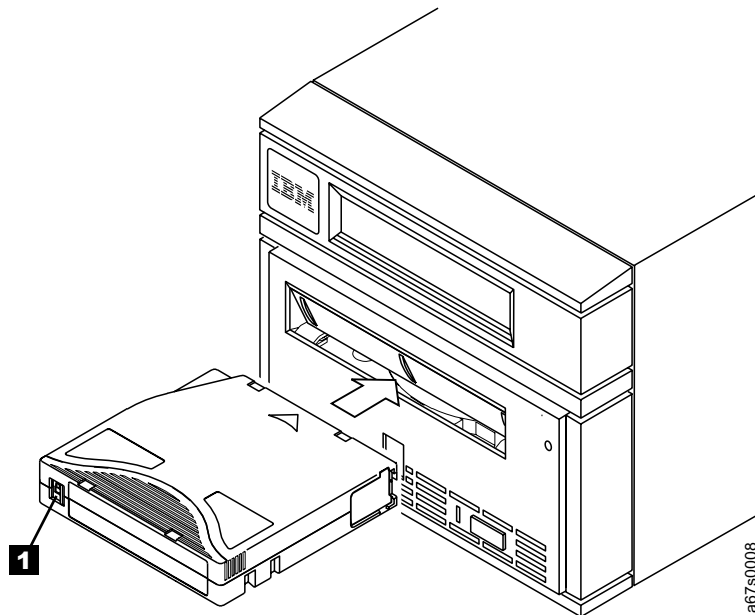

Figure 6. Inserting a Cartridge into the 3580 Tape Drive
2. Ensure that the write-protect switch (**1** in Figure 6) is properly set (see “Setting the Write-Protect Switch” on page 26).
4. Slide the cartridge into the tape load compartment (see Figure 6). The cartridge loader draws the cartridge into the tape drive and the following message appears on the message display:
To clean the head, insert the cleaning cartridge into the tape load compartment (see Figure 6 on page 19). The tape drive performs the cleaning automatically. The cleaning cycle takes less than 2 minutes. When the cleaning is finished, the drive ejects the cartridge.
With each 3580 Tape Drive, a specially labeled IBM LTO Ultrium Cleaning Cartridge is supplied to clean the drive heads. The drive itself determines when a head needs to be cleaned. It alerts you by displaying **C** on the single-character display and turning off the status light. To clean the head, insert the IBM LTO Ultrium Cleaning Cartridge into the tape load compartment (see Figure 6 on page 19). The tape drive performs the cleaning automatically. When the cleaning is finished, the drive ejects the cartridge.